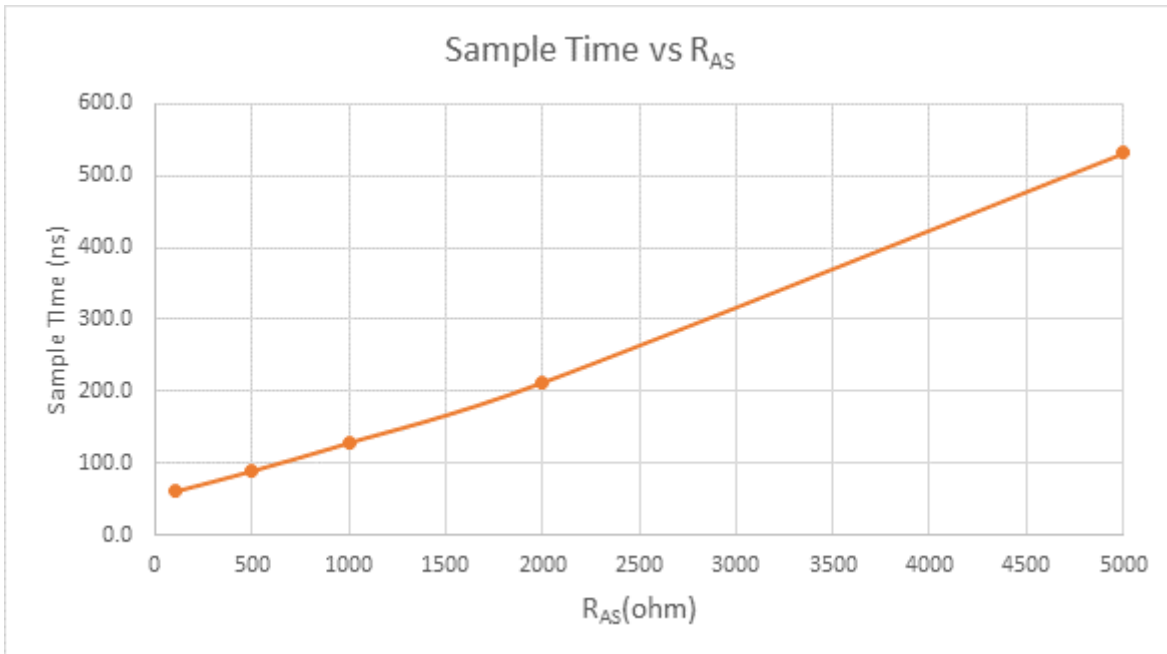

Figure 33. Sample time VS. RAS
3 See Figure 33, "Sample time VS. RAS".
4 See Figure 33, "Sample time VS. RAS".
- 5 See Figure 33, "Sample time VS. RAS".